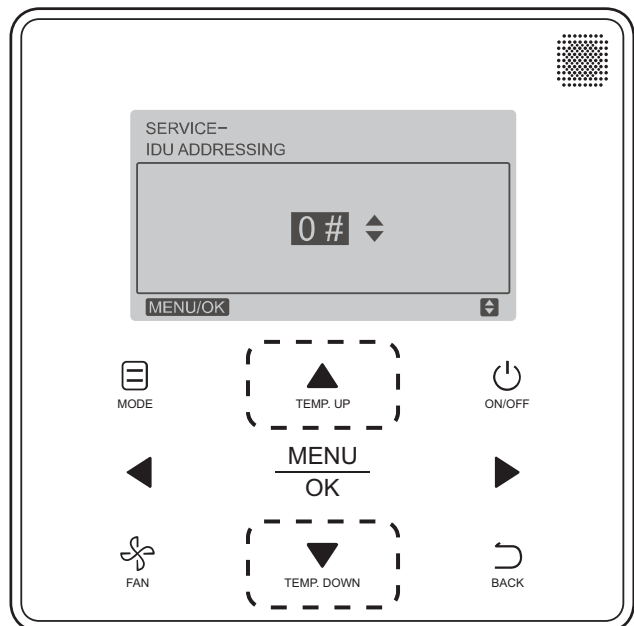

Fig. 34 —Programmable Controller Setting IDU Address
3. Press **TEMP. UP** or **TEMP. DOWN** to choose the address you want to set. See Fig. 34. Press **MENU/OK** to send this address to the IDU.